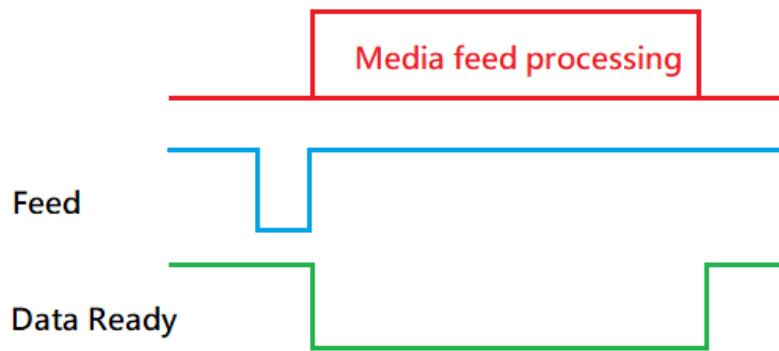

Figure 5
- c. The timing chart is as Figure 5